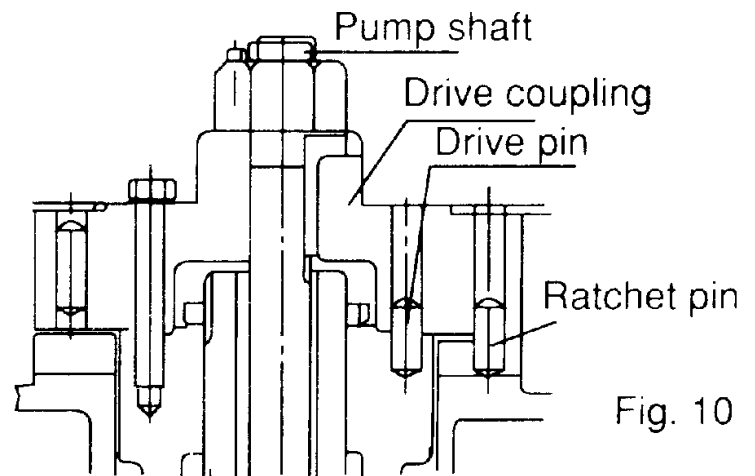

Fig. 10
3.3.9 Non-reverse ratchet/coupling, as Fig. 10 (If necessary)